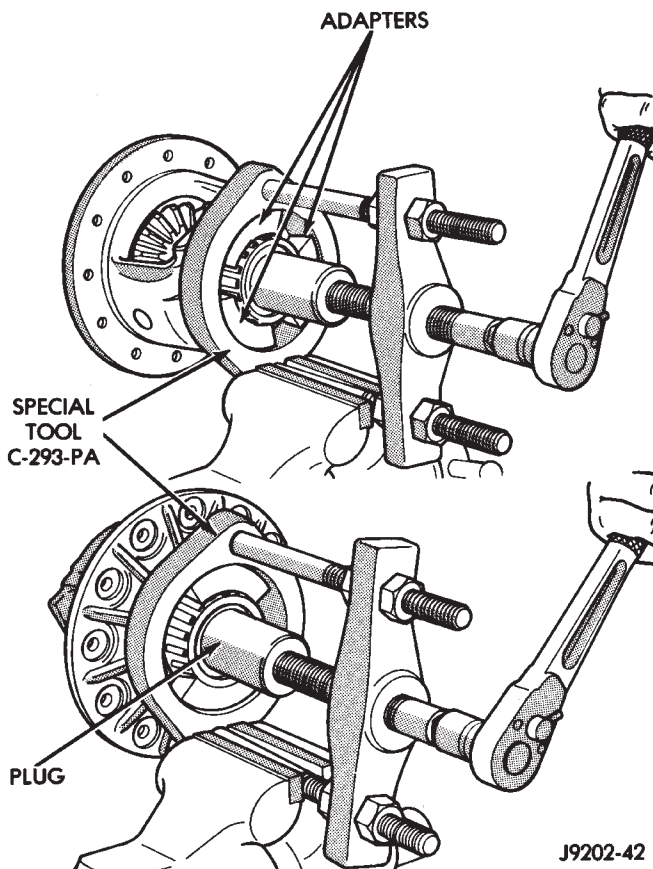

Fig. 28 Differential Bearing Removal
(1) Remove the bearings from the differential case with Press C-293-PA, Plug C-293-3, Adapter C-293-39 (Fig. 28).